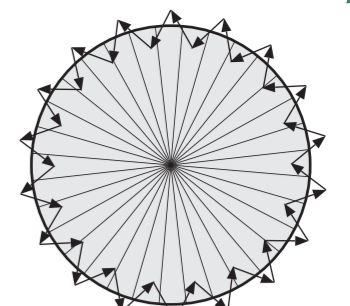

FIG.20
- 4.2.2.4 After the warming up period, walk from outside across to the detection pattern until LED turns on for approx. 2 sec (See FIG.20).